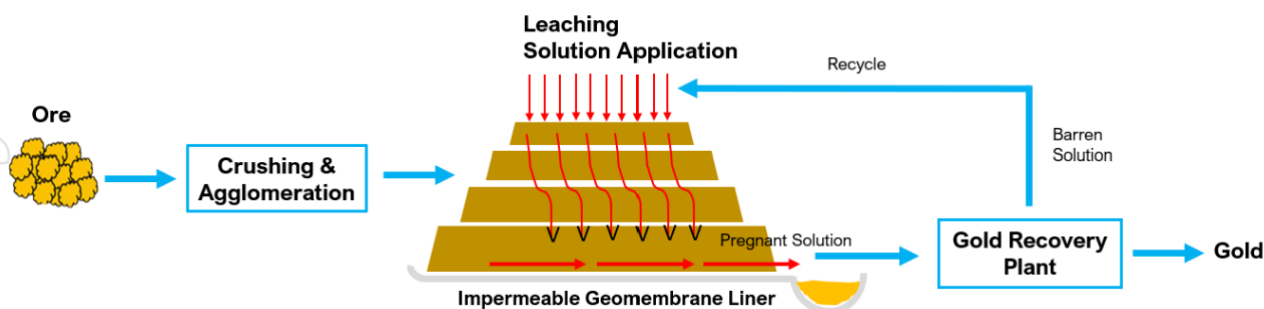

Figure 4. A typical heap leach process
- Lower-grade ore rejected by the sorter will undergo heap leaching, with column tests showing potential gold recoveries as high as 68.7% (Figure 4 and 5 and Table 1).
Figure 4 below shows how a typical heap leach process works with ore put through an optional pre-application phase before being stacked on an impermeable heap pad. The pad is then irrigated with a leaching agent for an extended period of time which chemically reacts with the ore to dissolve the gold into a solution as it percolates through the heap. The impregnated solution is then collected at the bottom of the heap and the gold is recovered through a gold processing plant, with the barren solution recycled to start the process again.